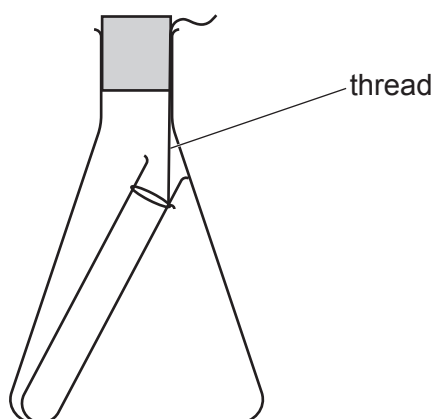

Fig. 2.1
- 2.2 The test-tube and conical flask must be of the appropriate size so that the apparatus shown in Fig. 2.1 can be assembled by the candidate, with the thread held between the stopper and the conical flask. **The stopper must fit in the flask such that no liquid can leak when the assembled apparatus is inverted.**